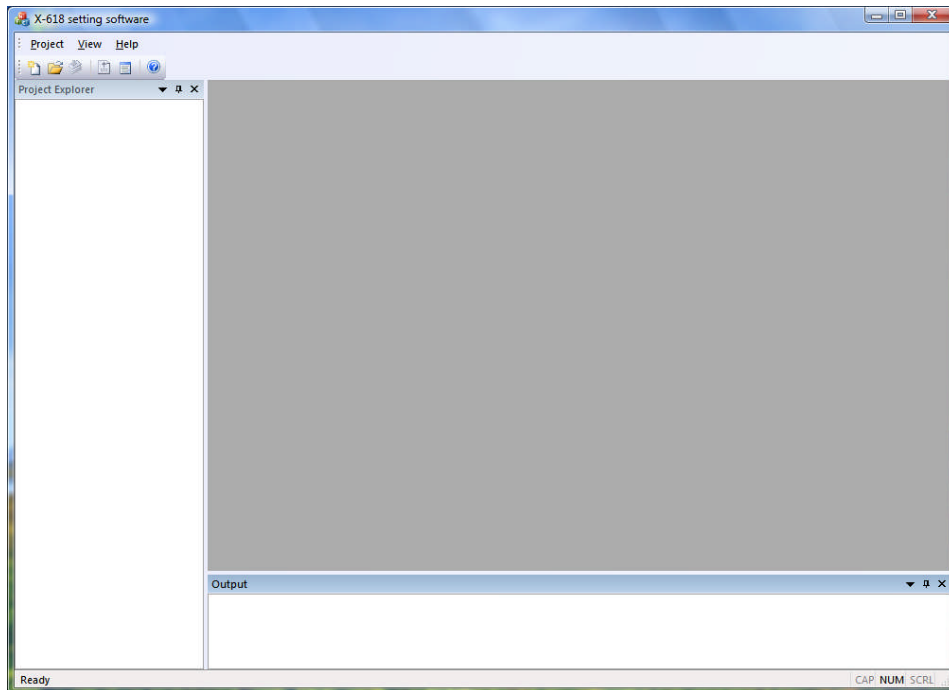
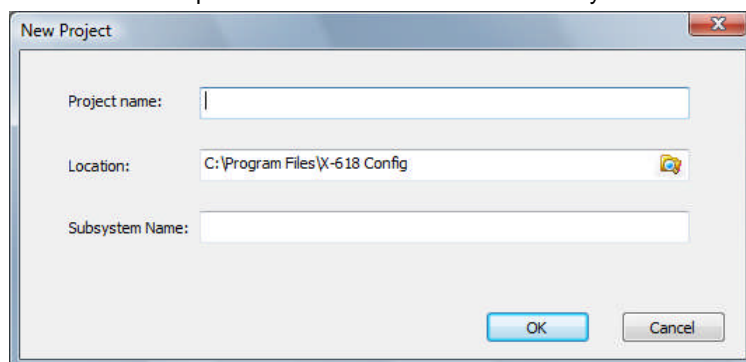

Figure 3 X-618 Setting Software Initial Window
Figure 5 New Project Window
2. Select *English*, and click **OK**. The main window is displayed as shown in Figure 3.
1. Click the create icon  on the menu bar, or select the menu command **Project → Create** in the X-618 Config software window, as shown in Figure 3. The New Project window is displayed, as shown in Figure 5